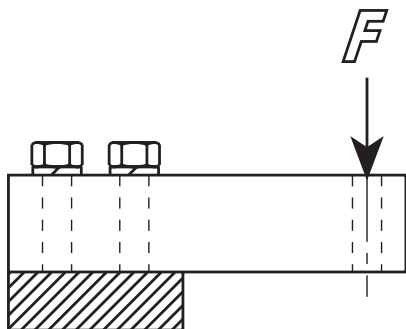

Figure 1-13
Figure 1-13 shows a typical mounting arrangement for a single-ended beam. The fixed end is fastened to a “rigid” foundation, while the free end is cantilevered to allow downward deflection as load (F) is applied. Under ideal conditions, the mounting surface would be flat, horizontal and perfectly rigid. The load F would be introduced vertically with minimal extraneous forces applied, and the load cell would be totally insensitive to all forces other than precisely vertical ones.